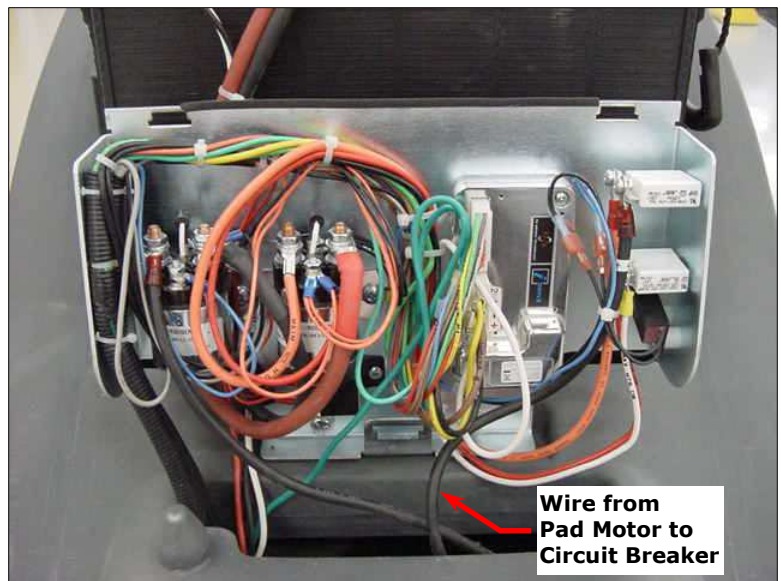

Figure 9 – Wire from Pad Motor to Circuit Breaker
2. See Figure 9. Run the machine and measure the pad motor current draw using an amp clamp around the wire running from the pad motor to the circuit breaker.